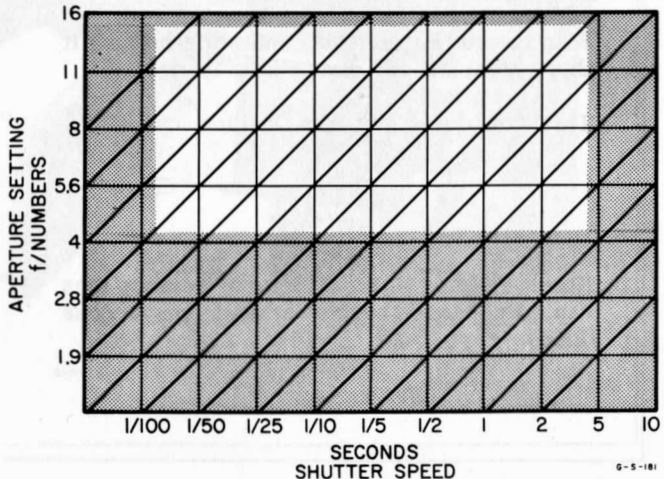

Figure 3-3. Exposure Adjustment Guide
3-16. GENERAL. There are several variables (e.g., the intensity setting of the oscilloscope, spot speed, etc.) that affect the exposure setting of the camera. The exposure instructions given here are general, but in most cases will be sufficient to produce good results. A good way to determine the ideal aperture setting and shutter speed without undue waste of film is to take several test pictures using the multiple exposure control. Table 3-1 and figure 3-3 are given as a rough guide to obtain nearly correct settings for different film types, sweep speeds and oscilloscope phosphors. Table 3-1 and figure 3-3 are for repetitive traces only. For slow sweeps (more than 5 seconds total sweep time, see paragraph 3-19).
3-19. Table 3-1 and figure 3-3 can be used to determine the approximate exposure settings required under varying conditions with repetitive traces. When only one sweep of a slow sweep presentation (over 5 seconds) is to be photographed, use an aperture setting of f/8 for type 47 film, and f/5.6 for type 42 film. Set the oscilloscope intensity for a sharp spot with no halo. Any point along any one diagonal line in figure 3-3 will give exactly the same exposure. Moving to any adjacent diagonal line will double or halve the exposure depending on whether you go to the right or left. To use table 3-1 and figure 3-3, proceed as follows:
f. Find the basic aperture/shutter speed point in figure 3-3. Now go up or down that diagonal line until it intersects with the shutter speed closest to that found in step e. Follow the horizontal line at that intersection to find the new aperture setting.
3-21. Position your head against the 196A viewing port when making oscilloscope intensity and focus settings. A small change in intensity barely perceptible to the eye will produce the same result as changing the aperture settings two f/numbers. The intensity should be set so that no general glow or blooming is seen on the cathode ray tube. If this rule is followed, the data given in table 3-1 and figure 3-3 will prove of great help in the saving of film and time. There are specialized situations, of course, when details in fast rise times, etc., will want to be observed. In these cases, the intensity will have to be set somewhat higher.